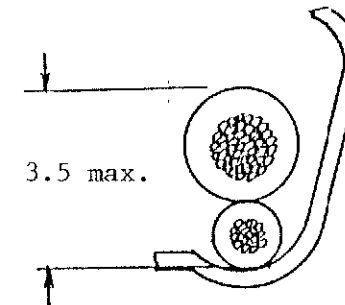

Fig.3
- When crimping two wires, they shall be stacked as seen in Fig. 3. In this case, outside diameter of their insulation shall conform to that given in Fig. 3. If their diameters are different from each other, the smaller shall be placed underneath.